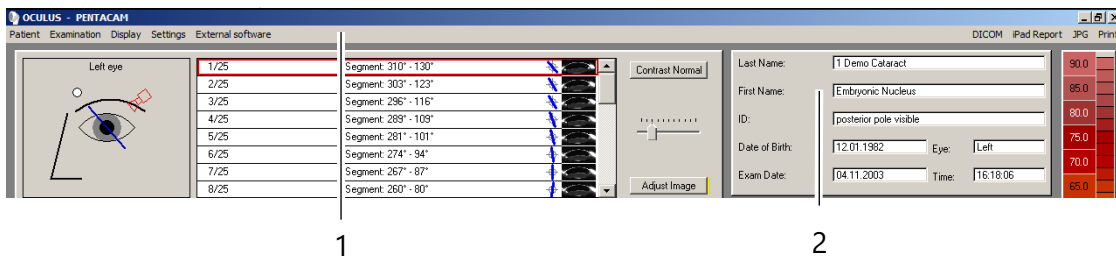

Fig. 8-1: Pentacam® program menu (upper section)
- ➔ In the Pentacam® program (fig. 8-1, page 28) select the menu item [Examination] and click [Scan].